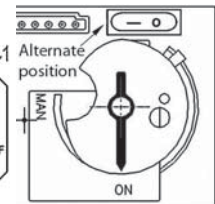

Fig 2A
1. STOP! Read the safety information above. Dependent on model, switch #1 may be mounted directly to valve see Fig 2A.